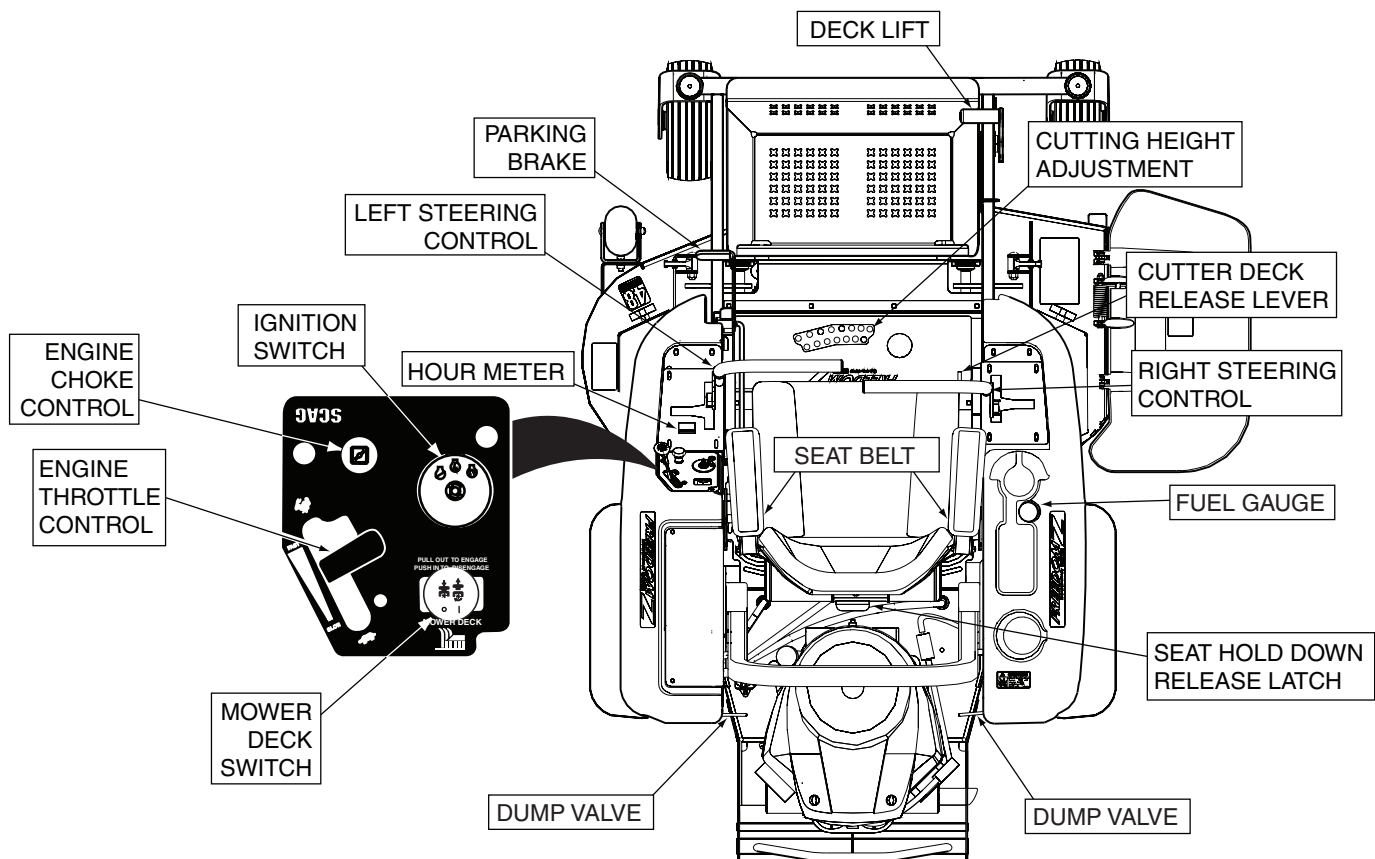

Figure 4-1. Controls and Instruments
1. **Ignition Switch (Figure 4-1).** The ignition switch is used to start the engine and has three positions; OFF, ON, and START.
2. **Mower Deck Switch (Figure 4-1).** Used to engage and disengage the mower drive system. Pulling up on the switch will engage the deck drive. Pushing down on the switch will disengage the deck drive.
3. **Engine Choke Control (Figure 4-1).** Used to start a cold engine.
4. **Engine Throttle Control (Figure 4-1).** Used to control the engine speed. Pushing the lever forward increases engine speed. Pulling the lever back decreases engine speed. Full back position is the IDLE position. Full forward is the cutting position.
5. **Fuel Gauge (Figure 4-1).** Indicates the amount of fuel in the fuel tank.
6. **Hourmeter (Figure 4-1).** Indicates the number of hours the engine has been operated. It operates whenever the ignition key switch is in the ON position. Has preset maintenance reminders for engine and hydraulic system oil changes. Will start flashing scheduled maintenance 2 hours before preset time and continue flashing until 2 hours after. Automatically resets.
7. **Fuse Holders (Figure 4-1).** Two 20-amp fuses protect the mower's electrical system. To replace fuses, pull fuse out of the socket and install a new fuse.
8. **Left Steering Control (Figure 4-1).** Used to control the mower's left wheel when traveling forward or reverse.
9. **Right Steering Control (Figure 4-1).** Used to control the mower's right wheel when traveling forward or reverse.
10. **Parking Brake Control (Figure 4-1).** Used to engage and disengage the parking brakes. Pull the lever back to engage the parking brakes. Push the lever forward to disengage the parking brakes.
12. **Deck Lift Foot Lever (Figure 4-1).** Used to raise and lower the cutter deck.
13. **Cutting Height Adjustment (Figure 4-1).** Used to set the cutter deck at the desired cutting height.
14. **Deck Release Lever (Figure 4-1).** Used to lock the cutter deck in the transport position. Push the foot pedal forward and pull back on the release lever to release the cutter deck for normal mowing.
15. **Seat Belt (Figure 4-1).** Used to secure the operator. Seat belt must be worn at all times during operation.
16. **Seat Hold Down Release Latch (Figure 4-1).** Located behind the seat. Used to secure the seat in the operator's position. Release the latch to gain access under the seat.
Do not travel forward over a curb. The mower will hang up on the curb. Raise the deck and travel backwards over the curb at a 45 degree angle. (See Figure 4-1 item 12 for cutter deck raising description.)